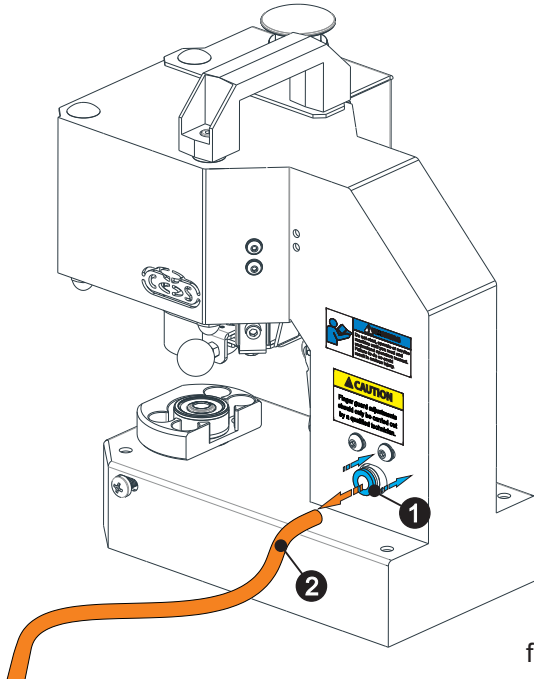

fig. 47
Shut down your air source and unplug the air hose from the machine. In order to unplug the air hose from the machine, push the blue part on the air entrance ❶ to the machine direction and while doing that pull the air hose ❷ at arrow direction as shown in above (fig. 47).